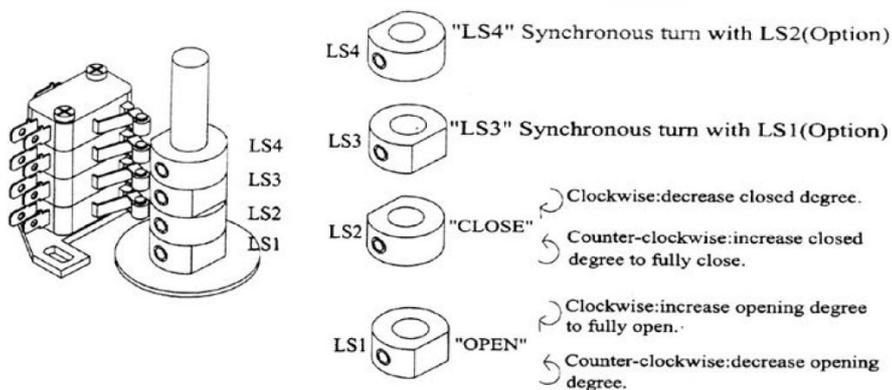

Figure 4: Limit switches LS1, LS2, LS3 and LS4
- .....they are almost positioned in the same angle of rotation position (see Figure 4)